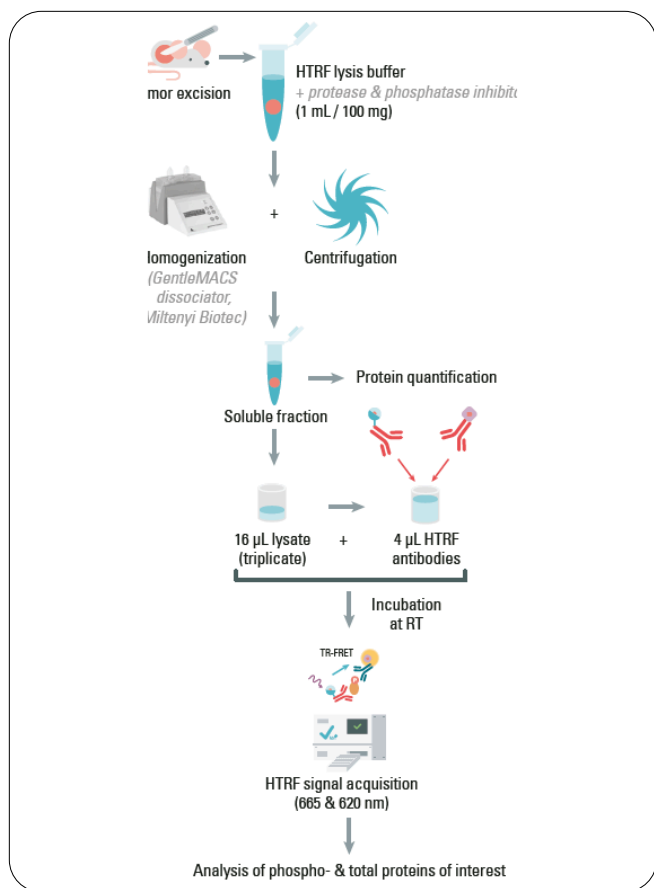

Figure 1: HTRF process flow for tumor xenograft analysis
3. Prepare several 1:2 serial dilutions of each normalized sample in the same lysis buffer and test to define a range of optimal protein concentrations that ensures operation in the assay's linear range (as illustrated in Fig. 1).